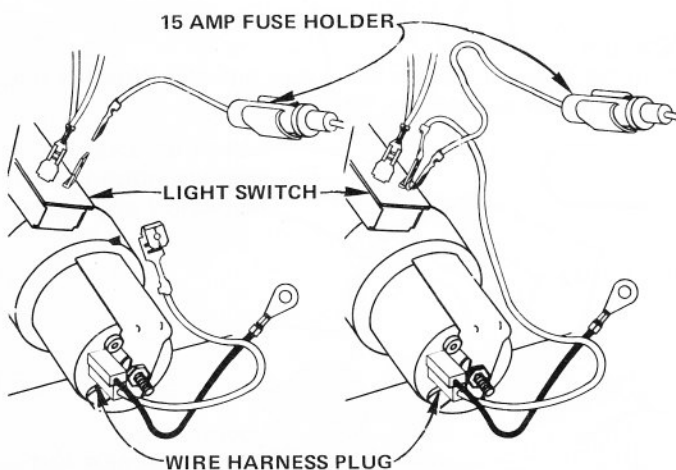

FIG. 8
1. Connect Wire Harness Plug to Service Hour Meter (Fig. 8).